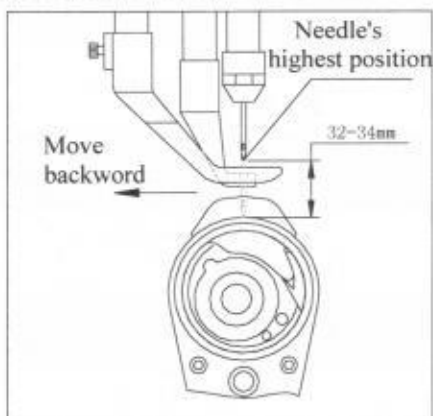

Fig 10
(1) Turn the pulley in the correct direction. When the needle comes down 32-34mm from its highest position the needle bar supporter together with the needle bar and the inner presser foot begins to move backward.(Fig 10)